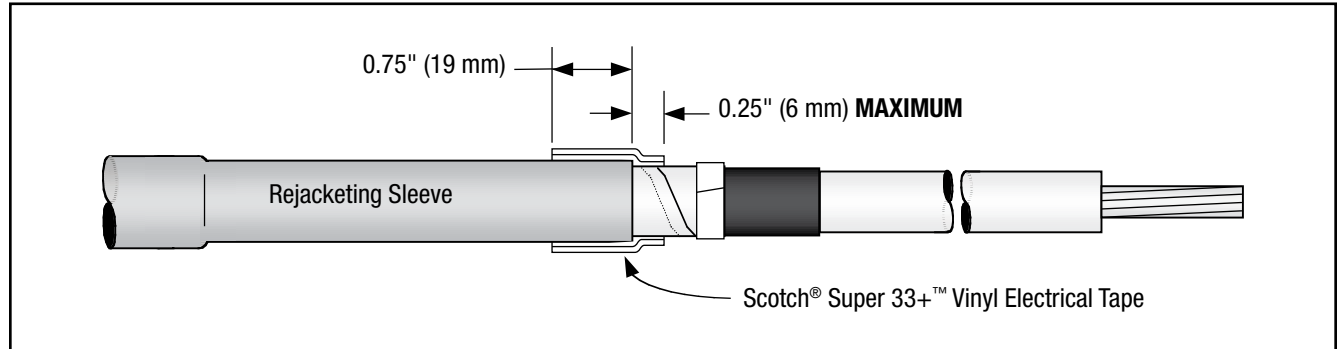

Figure 16
- 6.2 Secure rejacketing sleeve with two half-lapped layers of Scotch® Super 33+™ Vinyl Electrical Tape (*Figure 16*). Start taping 0.75" (19 mm) over rejacketing sleeve, extend 0.25" (6 mm) **MAXIMUM** over cable metallic shield and return to starting point.